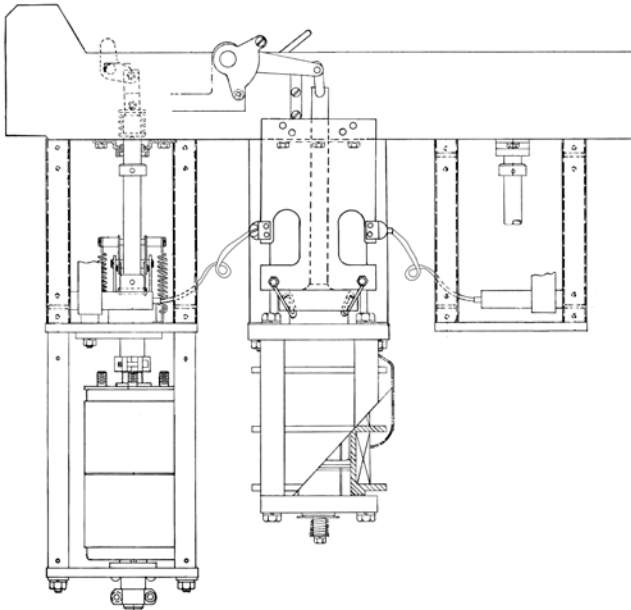

Figure 17. KA430R3 single break contactor – applicable to reclosers with a potential coils rated below 30 kV
- B. The ties securing the barrier to the vertical stringer should also encircle and secure the bushing lead using a "Figure 8" configuration (Figure 17).